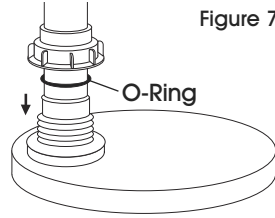

Figure 7
- Insert the pump tube through the bottom piece on the lid. Push the pump into the container until it hits the bottom, sliding the O-ring up the tube as you go. (See Figure 7)